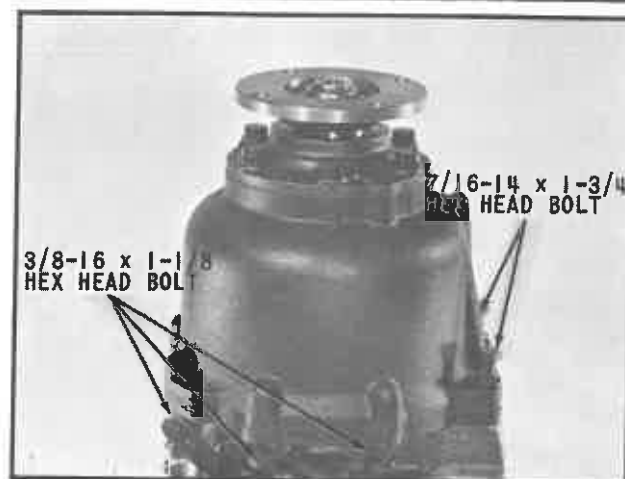

Fig. 32 Bolting Reduction Unit to Forward and Reversing Transmission
30. Install the two 7/16-14 x 1-3/4 hex head bolts and 7/16 lock washers, the six 3/8-16 x 1-1/8 hex head bolts and 3/8 lock washers as shown in (Fig. 32). Tighten bolts to specified torque.